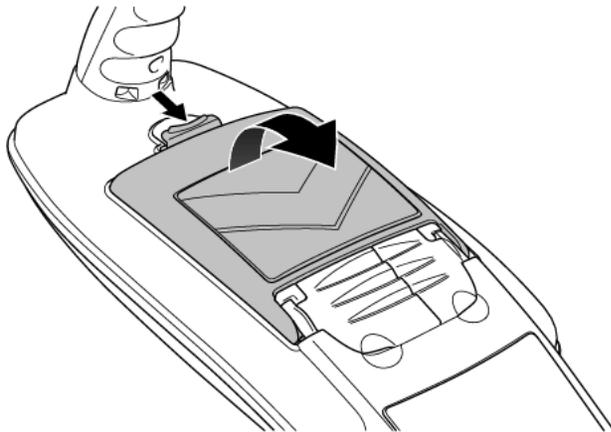

Figure 4.1: Open the battery compartment
To fit the D-cell batteries in the locator, unlatch the battery compartment as shown in Figure 4.1.
- 1 Open the battery compartment using the release catch (Refer to Figure 4.1).